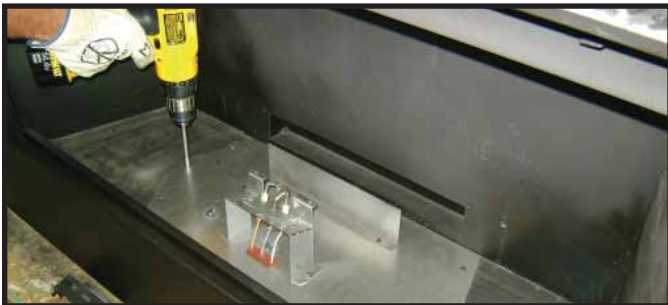

Figure 11.2. Remove Valve Plate Screws
1. Remove eleven screws around perimeter of valve plate that secure valve plate to the firebox bottom. See Figure 11.2.